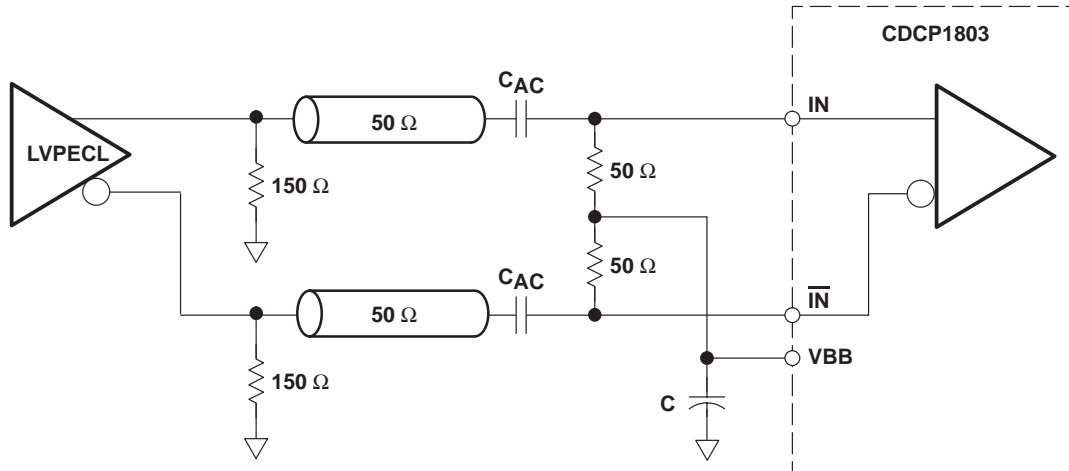

Figure 9. Recommended AC-Coupling LVPECL Receiver Input Termination
For optimized noise performance, it is recommended to properly terminate the PCB trace (transmission line). If a differential signal drives the CDCP1803, then a 100-Ω termination resistor is recommended to be placed as close as possible across the input pins. An even better approach is to install 2x 50 Ω, with the center tap connected to a capacitor (C) to terminate odd-mode noise and make up for transmission line mismatches. The VBB output can also be connected to the center tap to bias the input signal to ($V_{DD} - 1.3\text{ V}$) (see Figure 9).